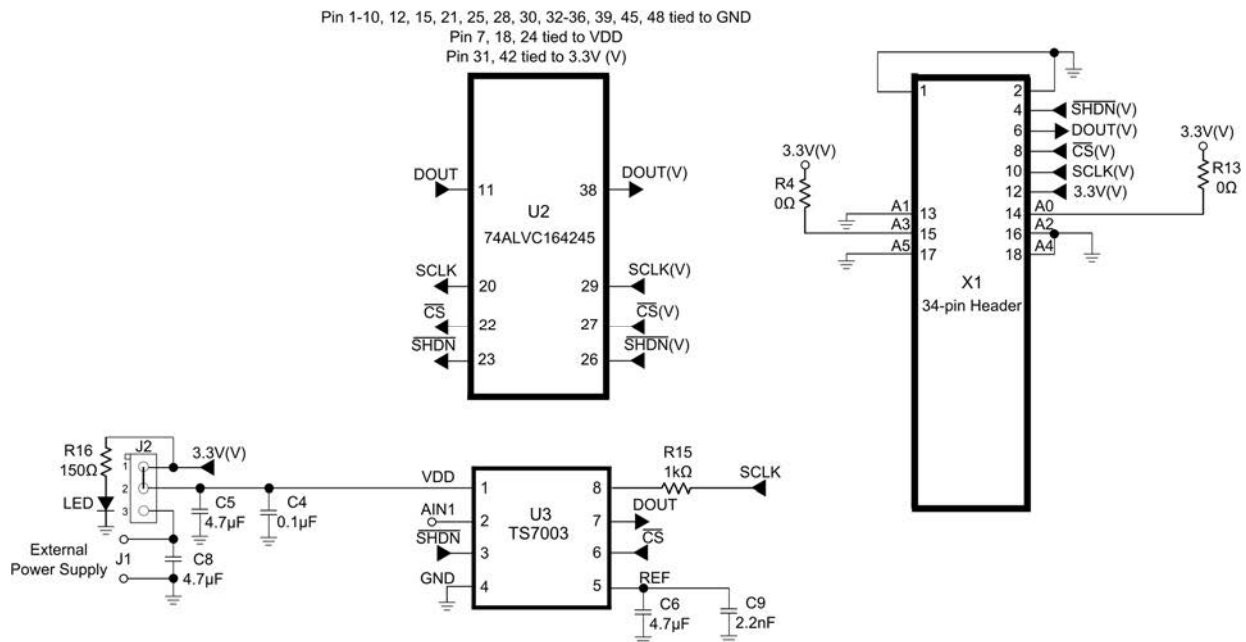

Figure 5. TS7003 Evaluation Board Circuit
A separate power supply can be used to power the TS7003 from +2.7V to +3.6V. If evaluating the TS7003 demo board without the ViperBoard, a single power supply is needed. A BNC connector is available for the input of the TS7003, AIN, and it is recommended to use a low-noise signal generator in order to acquire optimal SNR and THD results. Refer to Table 1. Figure 5 shows the TS7003 demo board schematic, Figure 2 shows a picture of the TS7003 demo board and Figure 1 shows a picture of the TS7003 demo board with the ViperBoard connected.
1-2. Refer to Figure 5 and Table 1. The default configuration on the board is for $V_{DD} = +3.3V$. The following steps are to be performed:
- 1) Set the voltage of the power supply between +2.7V and +3.6V and turn it off. Connect the positive terminal of the DC power supply to pin 12 labeled as 3.3V on the 34-pin header, X1, and the ground terminal to pin 2 labeled as GND. Refer to Figure 5.
- 3) To measure the supply current of the TS7003, place jumper J2 to position 2-3. Then, apply an external power supply to J1. An ammeter can now be connected in series with the power supply for a supply current measurement of the TS7003. The supply current should be approximately 950 μ A. Please refer to Figure 5 and table 1.